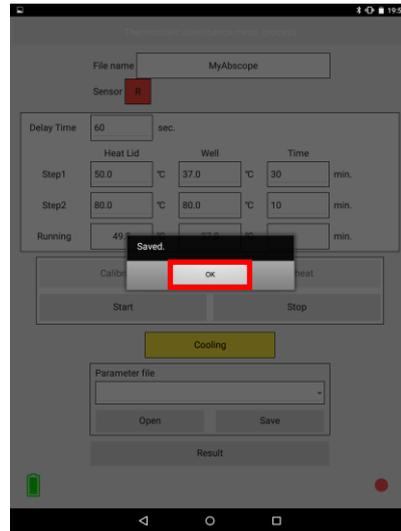

Figure 4-16: Indication of Saved state
If the thermostatic absorbance measurement start button (6) in Figure 4-7 is not tapped within 15 minutes after the preset preheat temperature is reached, you will be informed that the data is saved as shown in Figure 4-16. Then tap “OK.” Three seconds after 15 minutes have elapsed, the cooling fan starts to operate, and the status indication changes to “Cooling” as shown in Figure 4-17. When both the HeatLid temperature and Well temperature have fallen below 35°C, cooling is finished, and the status indication changes to “Ready” as shown in Figure 4-18.